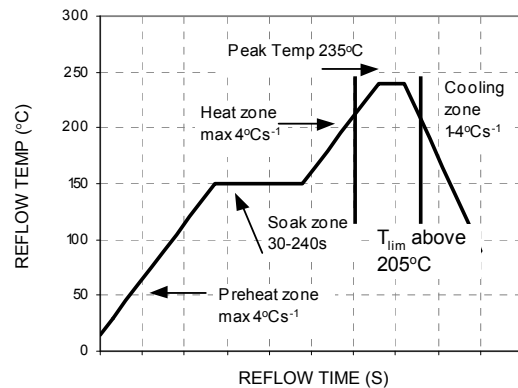

Figure 19. Reflow Profile for Tin/Lead (Sn/Pb) process.
technology called “Column Pin” (CP) connectors. Figure 19 shows the new CP connector before and after reflow soldering onto the end-board assembly.